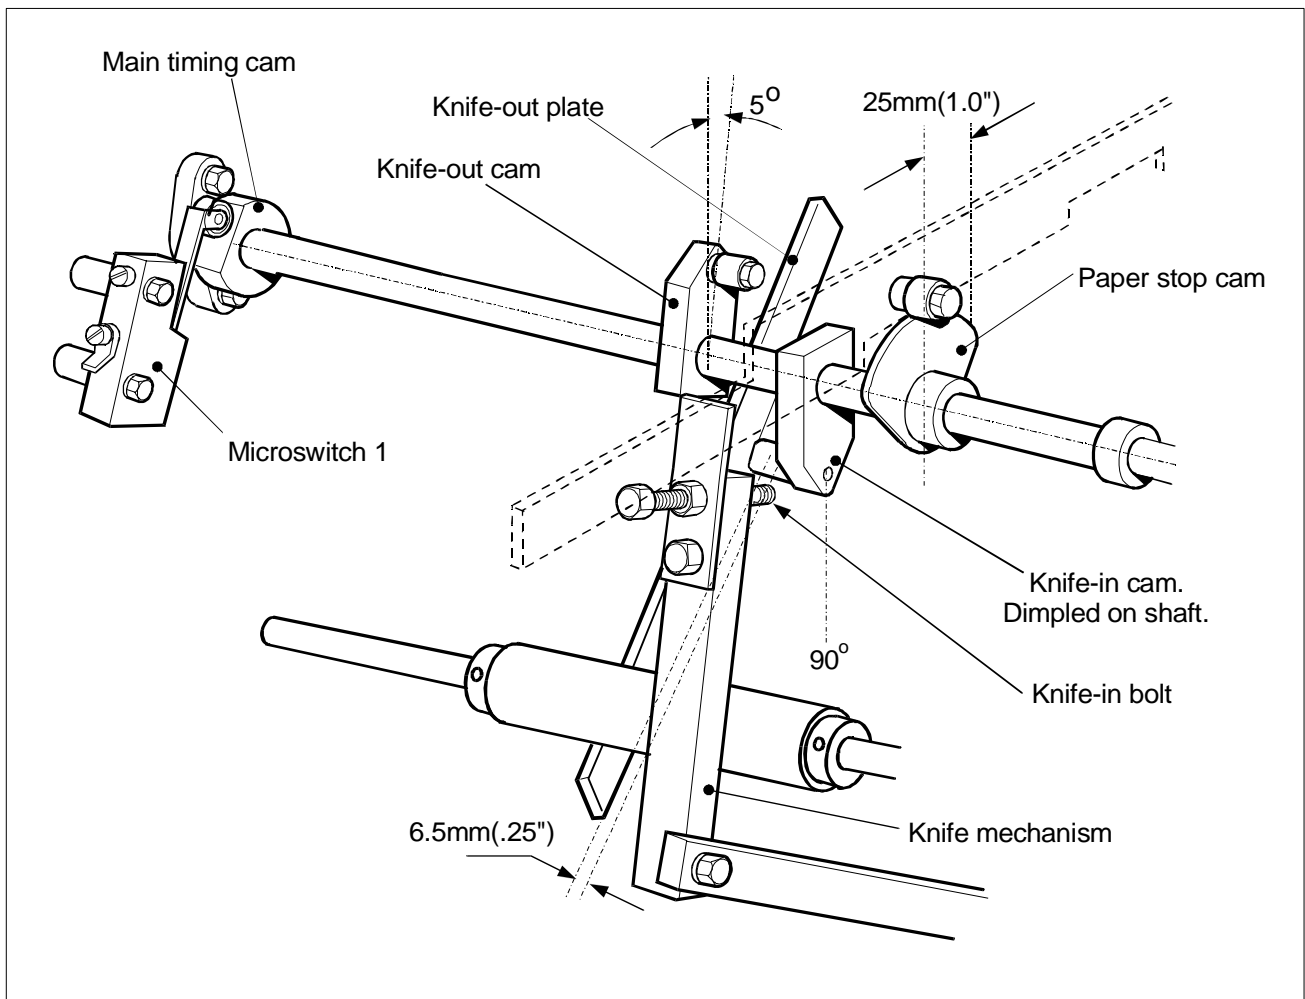

Figure 3.4 - Timing cam shaft.
1. Ensure that the knife-in cam, knife-out cam and the paper stop cam are in the position shown in figure 3.4.
2. When the machine is at rest this cam should be approximately 6 mm (0.25") from the knife-in screw. This cam is held by two grub screws and is dimpled to the shaft; adjustment should be made by moving the timing cam, figure 3.4.